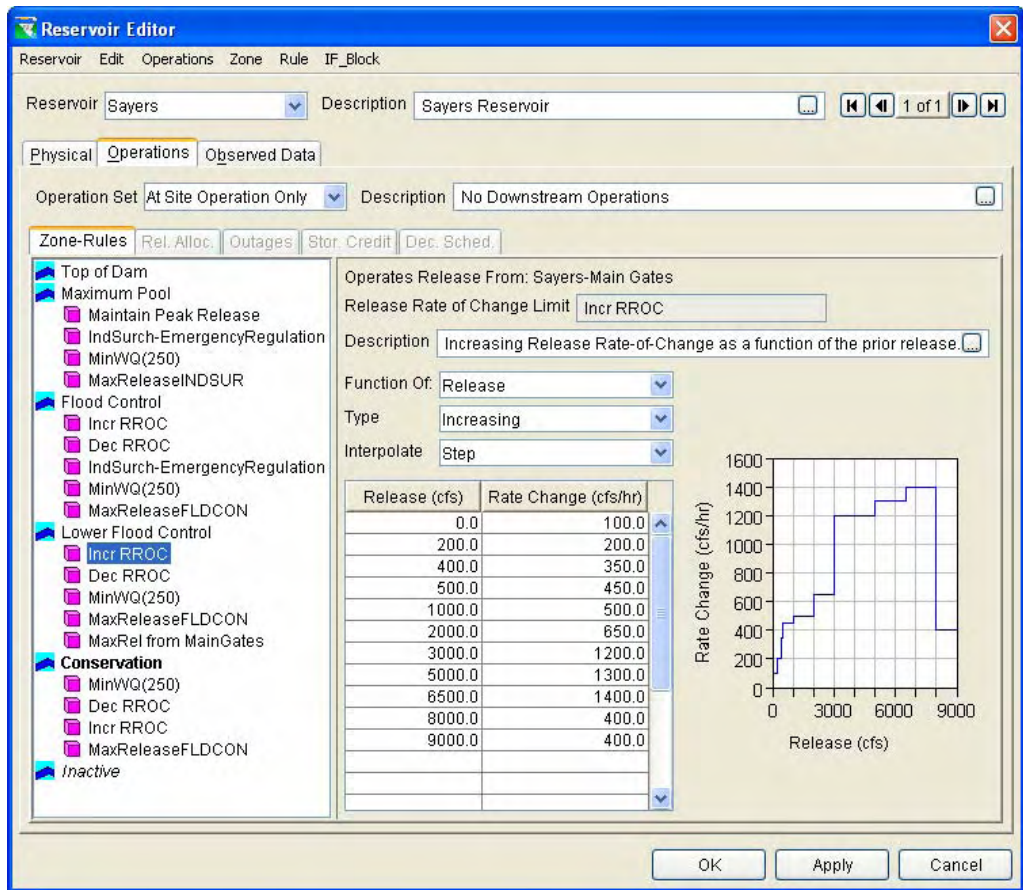

Figure 11.17 Example of Completed Release Function Rule
8. Define the function using the table in the release function rule editor (Figure 11.17). You can either copy and paste data from a spreadsheet application or type in the values manually.
An example of a completed **Release Function** rule is shown in Figure 11.17. When you have finished entering data for the Release Function rule, be sure to click the **Apply** button before moving on to the next rule.